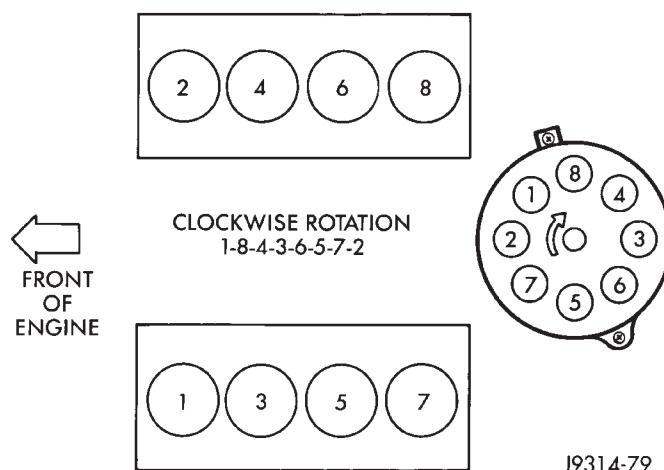

Fig. 4 Engine Firing Order—5.2L V-8 Engine
(1) Disconnect negative battery cable at battery.
(2) Remove coil high-tension cable and all spark plug cables at distributor cap. Note and mark position of cables (Fig. 4) before removal.
(3) Remove distributor cap from distributor (two screws).
(1) Install camshaft position sensor to distributor. Align sensor into notch on distributor housing.
(2) Connect wiring harness.
(3) Install rotor.
(4) Install distributor cap. Tighten mounting screws.
(5) Install spark plug cables in correct firing order (Fig. 4) to distributor cap. Be sure all spark plug cables are firmly connected into distributor cap towers.
- (b) Rotate the key clockwise to the OFF position. The lock cylinder will unseat from the ignition switch (Fig. 4). When the lock cylinder is unseated, it will be approximately 1/8 inch away from the ignition switch halo light ring. **Do not attempt to remove the lock cylinder at this time.**